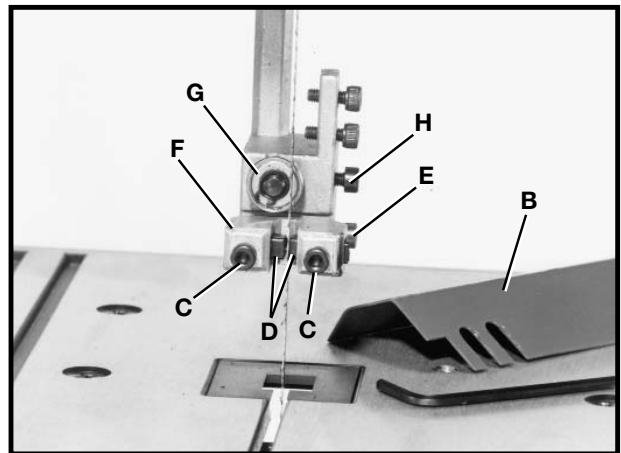
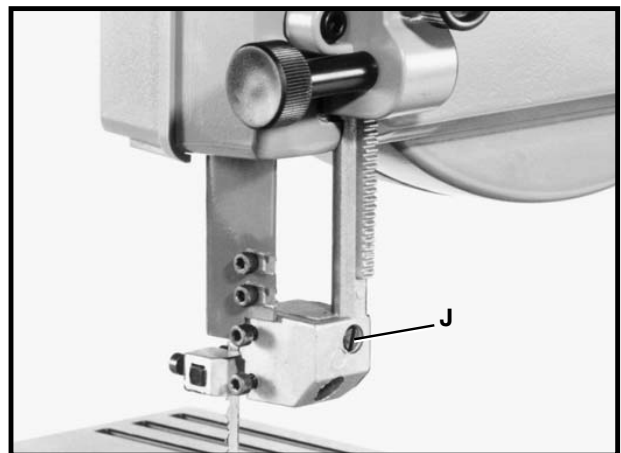

Fig. 22
Fig. 23
1. **NOTE:** Upper blade guard (B) Fig. 22, is shown removed for clarity.
2. Loosen the two screws (C) Fig. 22, and adjust the blade guides (D) as close as possible to the sides of the saw blade, being careful not to pinch the blade. Then tighten the two screws (C).
3. Loosen screw (E) Fig. 22, and move the guide bracket (F) in or out until the front edge of the guides (D) are just behind the “gullets” of the blade teeth. Then tighten screw (E).
4. The upper blade support/thrust bearing (G) Fig. 22, prevents the saw blade from being pushed back too far when cutting. The support bearing (G) should be adjusted approximately 1/32 in. behind the blade, so the back of the blade overlaps the outside diameter of the ball bearing by approximately 1/8 in. To adjust, proceed as follows:
5. Loosen screw (H) Fig. 22, and slide support bearing (G) in or out until it is approximately 1/32 in. behind the saw blade.
6. The upper blade support bearing (G) Fig. 22, is set on an eccentric shaft. To change position of bearing (G), use a straight screwdriver, rotate shaft (J) Fig. 23, until the blade properly overlaps the support bearing. Then tighten screw (H).